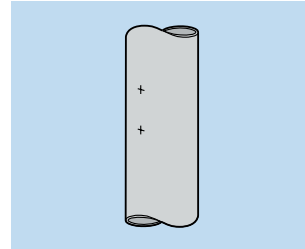

Fig.11
- Set out centre lines as described on inside of access door. Check aperture will be parallel with axis of pipe (Fig.11).